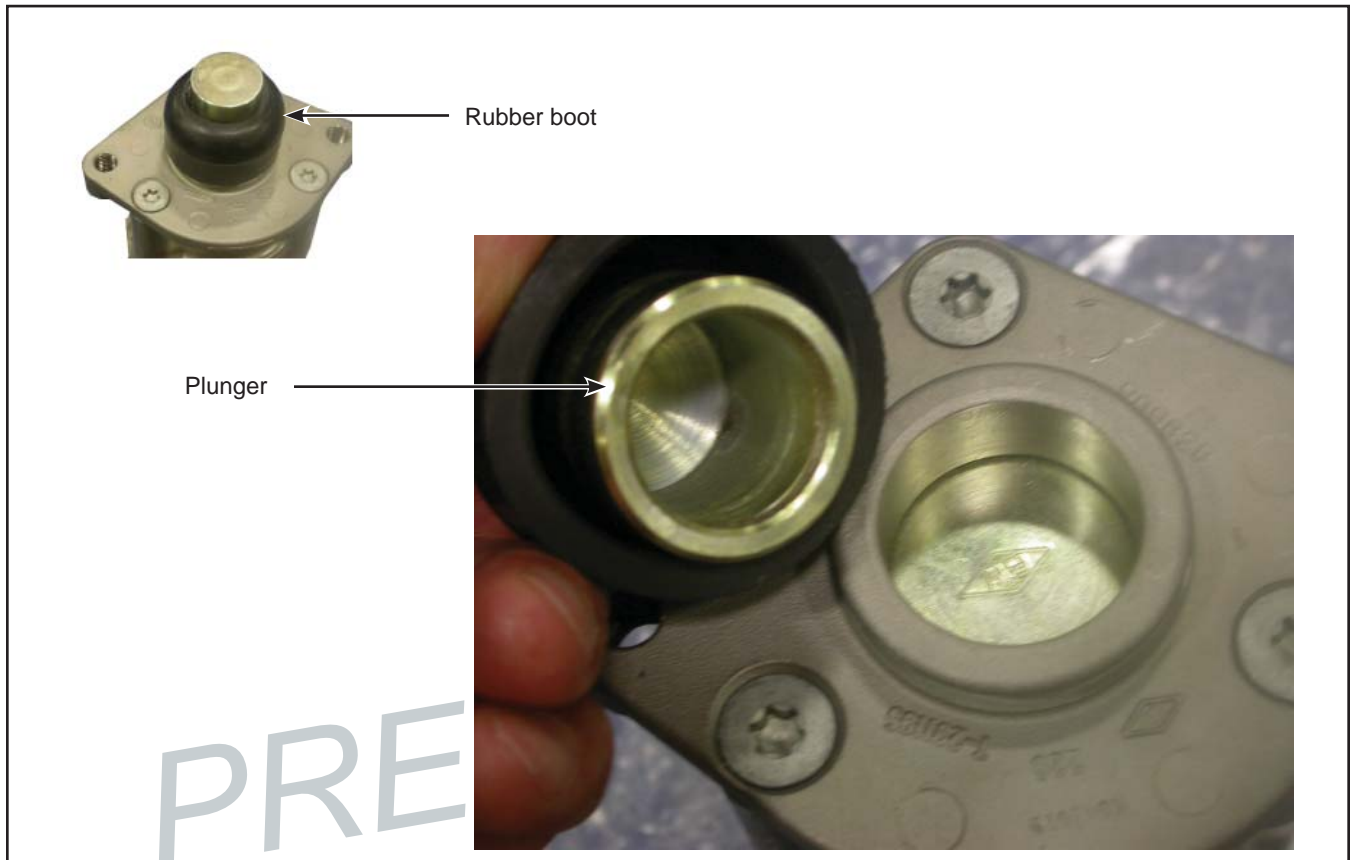

Figure 3 - Brake valve and brake plunger
1.5. Remove the rubber boot and the piston from the brake valve. See Figure 3. Retain the rubber boot.